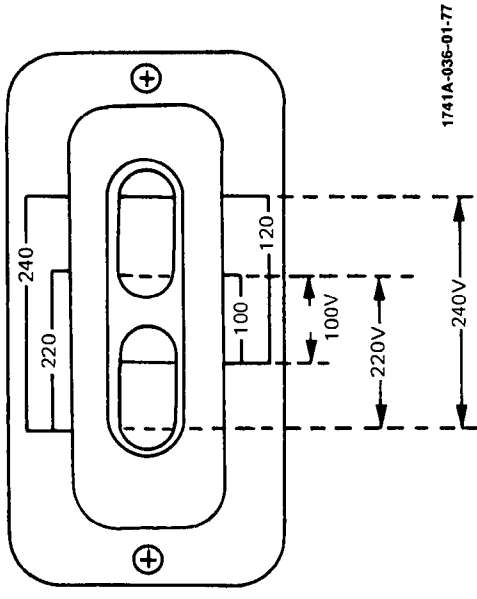

Figure 2-1. Line Voltage Selection Switch Settings
c. Through opening in bottom cover, set power selector switches to proper position for input power source. Figure 2-1 shows switches set for 120 V operation.